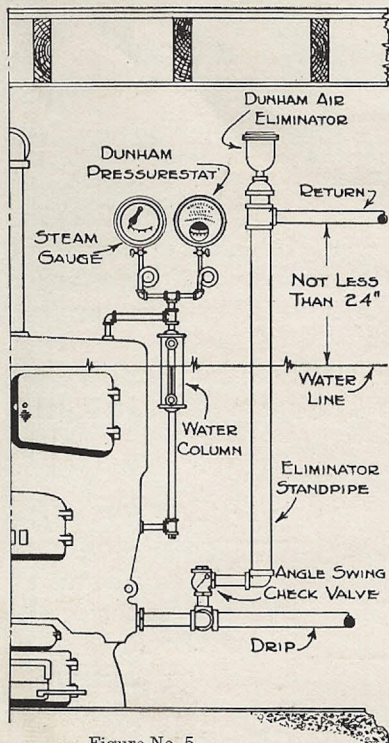

Figure No. 5
Angle Swing Check Valve An angle swing check valve should be installed in vertical stand pipe as per detail Figure No. 5. If it is impossible to secure an angle swing check, then a *horizontal swing* check may be used instead. *Never* use a vertical check valve.
IMPORTANT. The end of the main return in the boiler room should be at least twenty-four (24) inches above water line of boiler and as much greater as possible. See Figure No. 5. Check this very carefully and see that you have not
Dunham Air Eliminator The Dunham Air Eliminator has a capacity for removing the air from 2000 square feet of direct radiation. One or more eliminators, as may be required, should be installed on the vertical stand pipe where return main drops to return header of boiler, as per Figure No. 5.
Pressurestat Place the Pressurestat beside the steam gauge, installing same with syphon or "pig tail" and gauge cock. Pressurestat should be above all parts of the piping which connects it to the boiler so as not to be affected by any head of water. It can be installed above the water column as suggested in Figures No. 5 and 9. It is very important that the gauge cock which comes with the Pressurestat be installed in the connection between it and the boiler. If system is given a blowing off, after installation of Pressurestat, be sure to shut off the gauge cock between it and boiler to avoid allowing excessive pressures to come in contact with it.